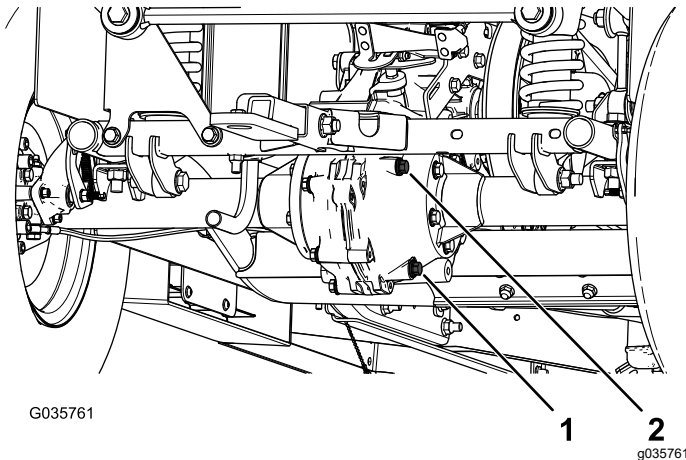

Figure 60
4. Remove the fill plug on the transaxle (Figure 60).
5. If the fluid level is low, remove the fill plug and add the specified fluid until it runs out of the hole (Figure 60).
1. Align a drain pan under the drain plug (Figure 60).
2. Remove the fill plug and the seal (Figure 60).
3. Remove the drain plug and the seal, and allow the fluid to drain completely (Figure 60).